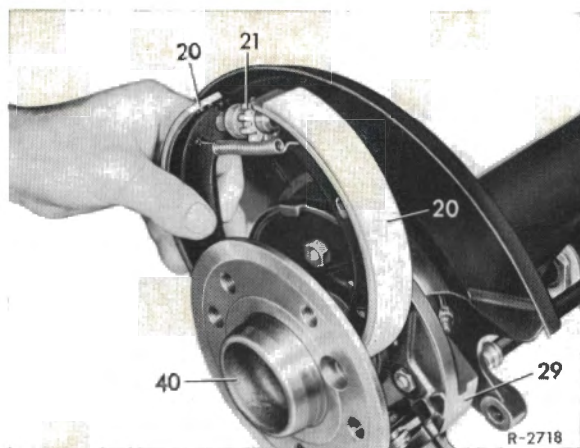

Fig. 42-28/8
16. Attach the lower return spring (25) to the rear brake shoe (20) with the small eye and use the brake spring pliers (52) to attach it to the front brake shoe (Fig. 42-28/2).